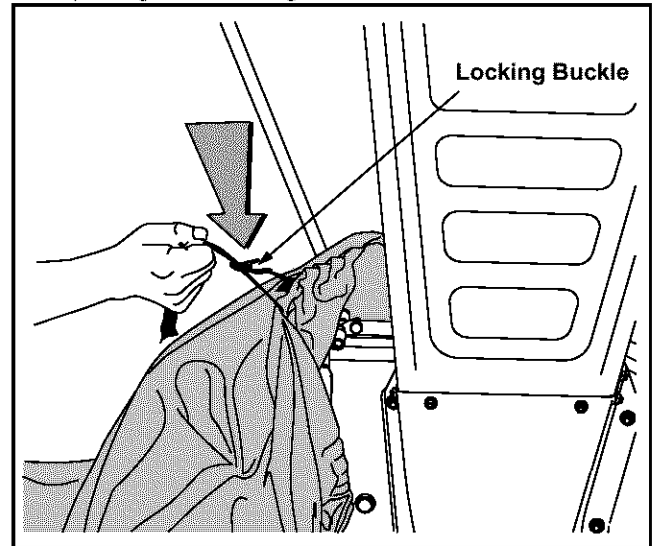

Figure 5
- Squeeze the locking buckle to release the bag's drawstrap before loosening it from the discharge chute. See Figure 5